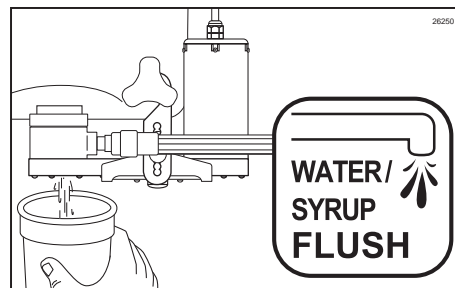

Figure 20
5. With a container under the dispensing spout, press the WATER / SYRUP FLUSH key on the Keypad to purge any remaining product from the Injector Head. (See Figure 20.)